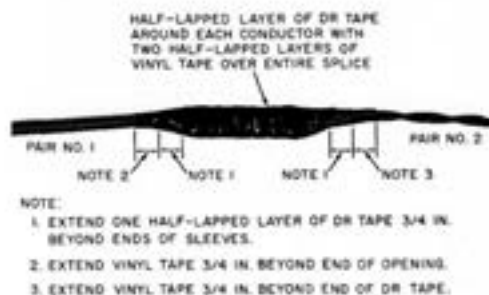

Fig. 12—Completed Splice (Drop to Block)
- (4) Wrap each joint with a single half-lapped layer of 3/4-inch DR tape.
- (5) Wrap the entire splice with two half-lapped layers of D or F vinyl tape. Start at the center of the splice, wrap to 3/4 inch beyond the end of the DR tape, then reverse the direction of wrap to 3/4 inch beyond the end of the opening, reverse direction again and end the wrapping at the center of the splice. See Fig. 12.